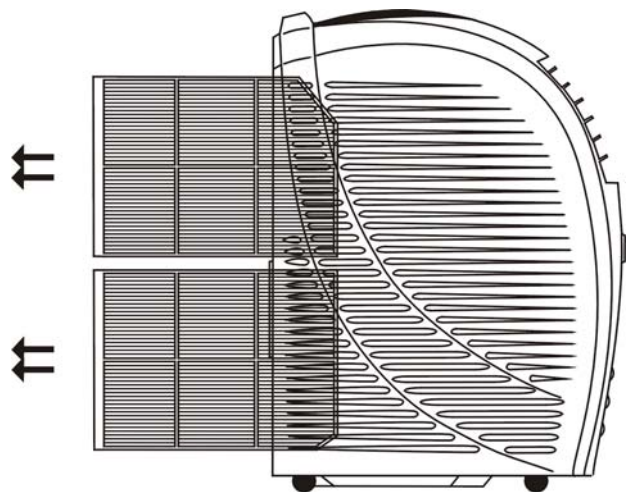

Fig. 14
- 1) Pull out the air filter. Fig.14.